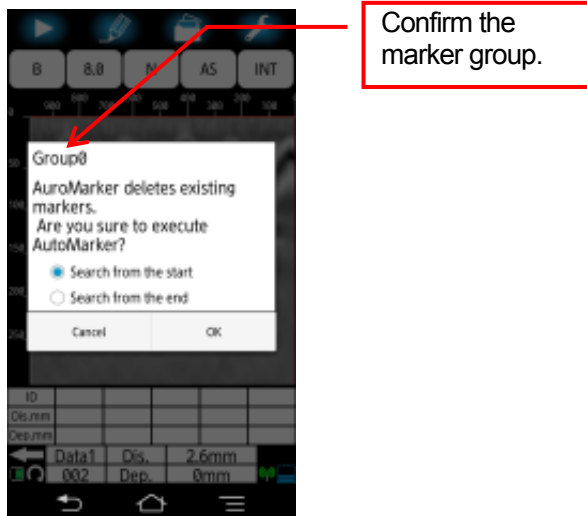

Figure 6-10 Confirmation of the marker group
- (3) AutoMark screen shown in Figure 6-10 appears. The marker group into which AutoMark function adds markers is shown at the top of the screen. Confirm the marker group is correct. To change the marker group, refer to Section 4.13.6 [Marker group setting] menu.